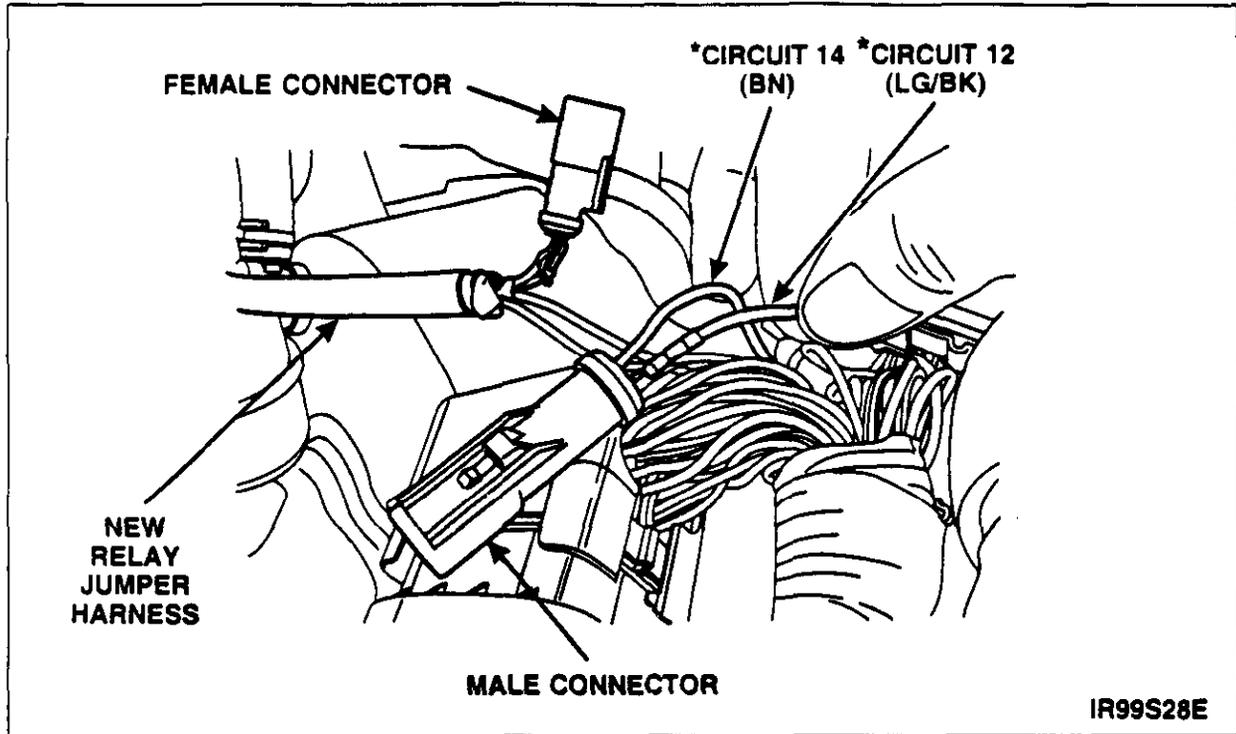

FIGURE 5
Correction: The orientation of the male connector within Figure 5 (page 7 of 22) shows Circuit 12 (LG/BK) and Circuit 14 (BN) -- the position of these wires must be reversed.
15. Insert circuit 12 (LG/BK) and 14 (BN) wires, which were removed from the 40-way connectors, into the male connector provided in the kit as indicated by the illustration. See Figure 5.